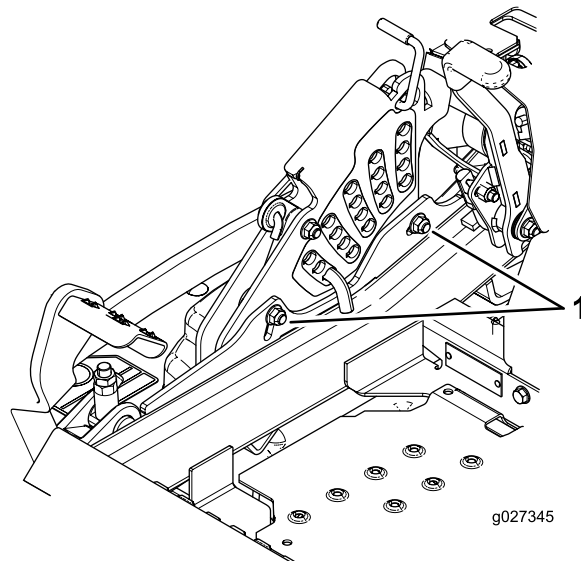

Figure 92
11. To adjust the single-point system, loosen the 2 bolts at the bottom of the height-of-cut plate (Figure 92).
13. Tighten the 2 bolts at the bottom of the height-of-cut plate (Figure 92). T